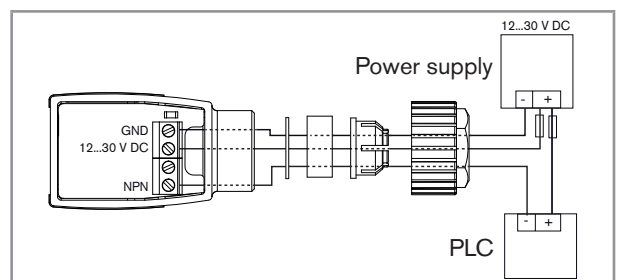
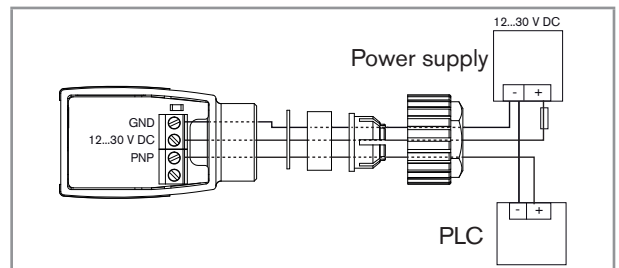

Fig. 4: Device with cable gland – NPN connection of the transistor output
Fig. 5: Device with cable gland – PNP connection of the transistor output
- Connect the transistor output (3-wire connection). The transistor output can be connected in the following modes: NPN or PNP. Refer to Fig. 4 or Fig. 5.